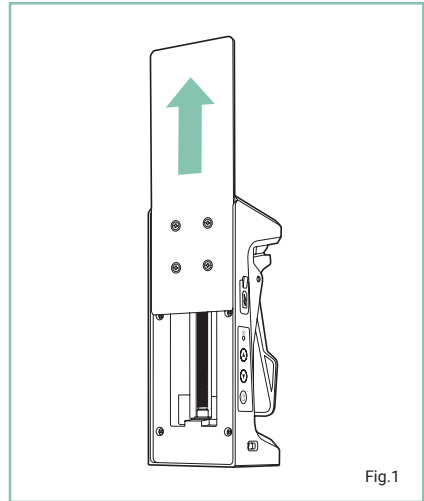

Fig.1
- The mount features precise vertical adjustments by pressing the **up button** or the **down button** on the motorised mount or the remote control (Fig.1).